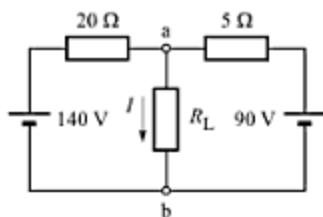

Fig. 4.42
- Find Thevenin's equivalent at terminals a-b of the network shown in Fig. 4.42. [Ans. $100\text{ V}, 4\text{ }\Omega$]